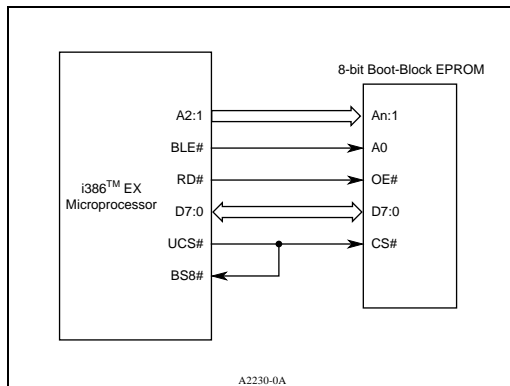

Figure 7. Intel386™ EX Microprocessor Interface to an 8-Bit Boot-Block EPROM
- Many embedded designs still use 8-bit devices for cost efficiency. The Intel386 EX microprocessor provides a BS8# signal to dynamically change the default 16-bit bus cycle to an 8-bit bus cycle. If BS8# is low within the specified time period, and if the current bus cycle is word sized, then the microprocessor will issue another cycle for the odd byte address. Figure 7 shows how this feature can be combined with the microprocessor's chip-select logic to implement a glue-less interface to an 8-bit boot-block EPROM.